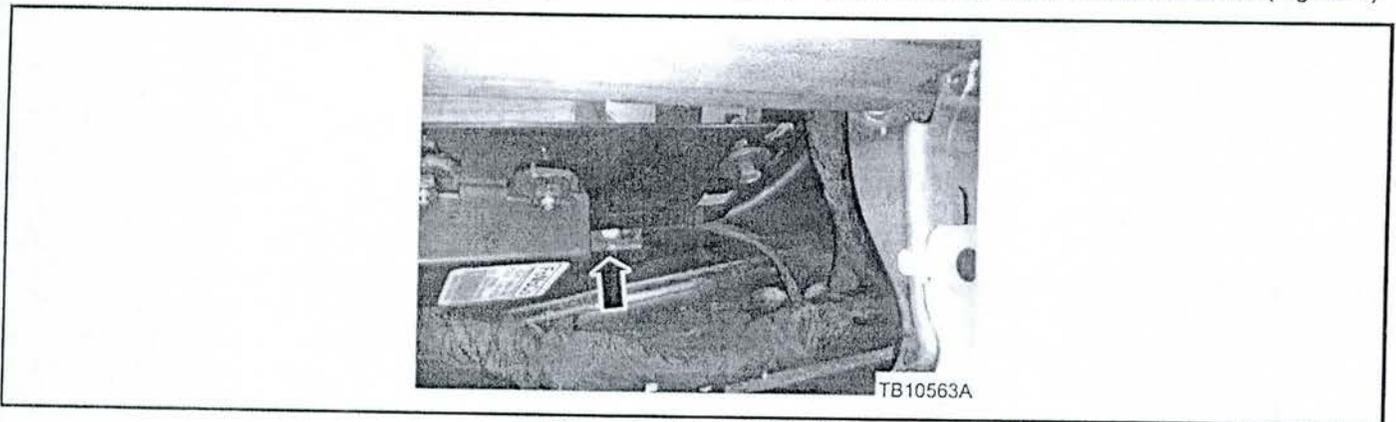

Figure 1 - Article 14-0136
1. Lower the glove box and place a 10 mm (3/8") vacuum hose by the heated steering wheel module bracket. (Figure 1)